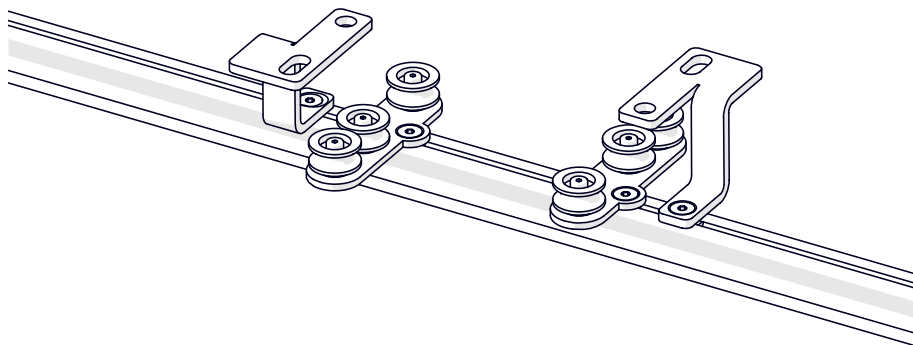

Fig. 73: Variant Ⓐ – Top cord operation – Mount guide rollers for track change
4. Mount additional cord guides to set up a track change that guides the cord to the opposite side from the cord clamp (the following Fig. 73 shows the variant for a two-part curtain and single-track layout).